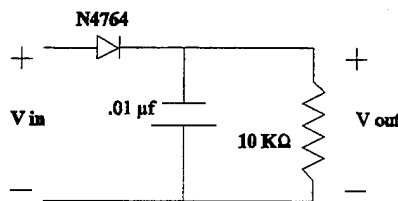

Figure 2
e) Change the signal output of the Wavetek 132 to a sine wave. Construct the envelope detector shown in Figure 2.